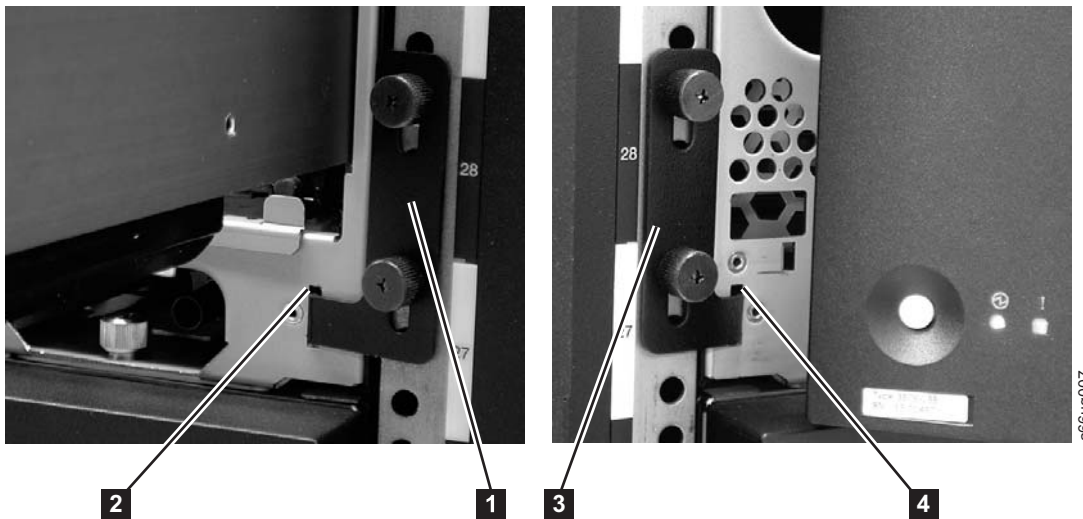

Figure 12-9. Removing the rack ears (Control Module shown)
2. Remove the right rack ear ( **1** in Figure 12-9).
3. Remove the left rack ear ( **3** in Figure 12-9).
2. Replace the right rack ear ( **1** in Figure 12-9).
- a. At the bottom right of the I/O Station position on each library unit, there is a slot ( **2** in Figure 12-9 on page 12-12). Insert the right rack ear into the slot.
3. Replace the left rack ear ( **3** in Figure 12-9 on page 12-12).
- b. Insert the left rack ear into the slot ( **4** in Figure 12-9 on page 12-12).